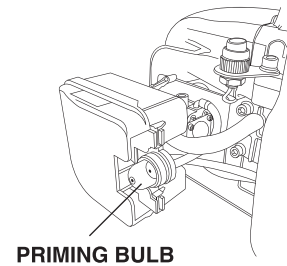

Figure 2
4.3.2 Press the priming bulb (Figure 2) repeatedly until fuel can be seen inside the fuel lines.